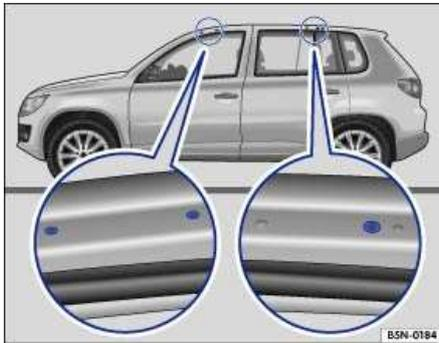
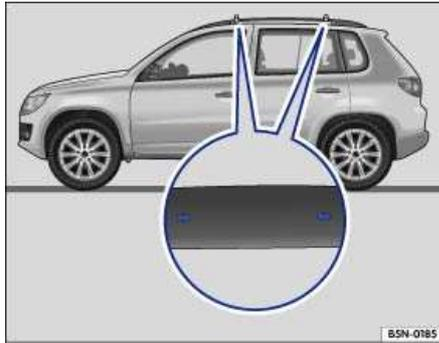

Fig. 98 Without roof rail: Attachment points.
Fig. 99 With roof rail: Attachment points.
The attaching markings are on the underside of the roof frame ⇒ Fig. 98, which are visible when the door is open.
The front roof rack must be mounted between the markings ⇒ Fig. 98. Mount the rear roof rack so that the centering pin fits into the hole ⇒ Fig. 98 on the vehicle. Carefully follow the assembly and installation instructions for the roof rack.
The mounting markings are located on the inside of the roof rails ⇒ Fig. 99.
Always attach the roof rack securely and only at the mounting points shown in the illustrations ⇒ Fig. 98 or ⇒ Fig. 99.
- **Always attach the roof rack securely and only at the mounting points shown in the illustrations ⇒ Fig. 98 or ⇒ Fig. 99.**